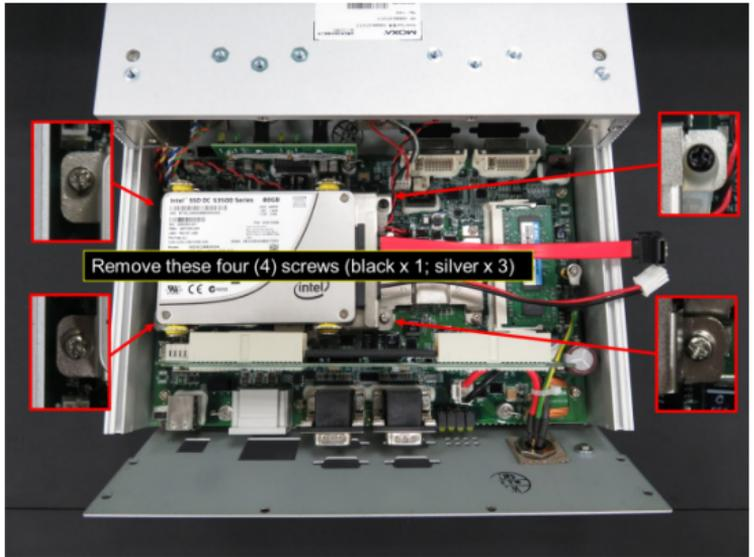

Figure 20
- 4.2.2.3 Use a Phillips screwdriver (item 1 in Table 2) to remove the four (4) screws that attach the SSD/HDD assembly to the board as shown in Figure 20.